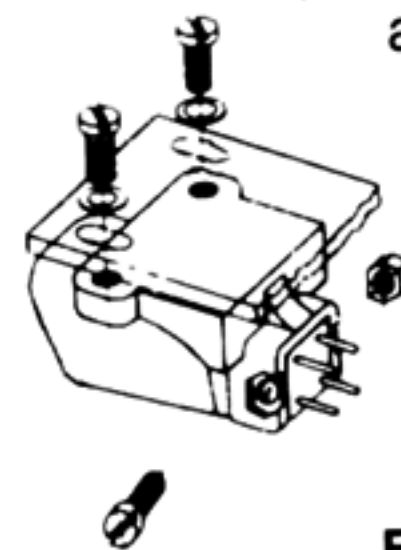

Fig. 2
- 4) Install cartridge and mounting bracket assembly into tone arm or headshell using 2 screws and 2 plastic washers provided. (See Fig. 2) Some special applications may require special hardware as provided with your tone arm or headshell. Follow manufacturer's instructions.